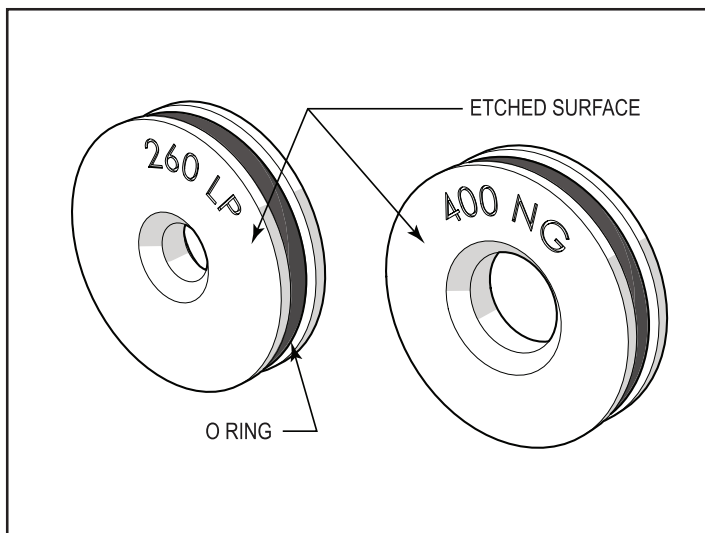

Figure 10. Etched Surface of Gas Orifice
- Pressing firmly, seat the new gas orifice and O-ring firmly in the middle of the union. Use only your fingers so as not to damage the O-ring or the orifice. Ensure it is fully inserted and flat against the orifice seat with the etched surface facing outward for easier identification of the orifice type and size (see Figure 10).